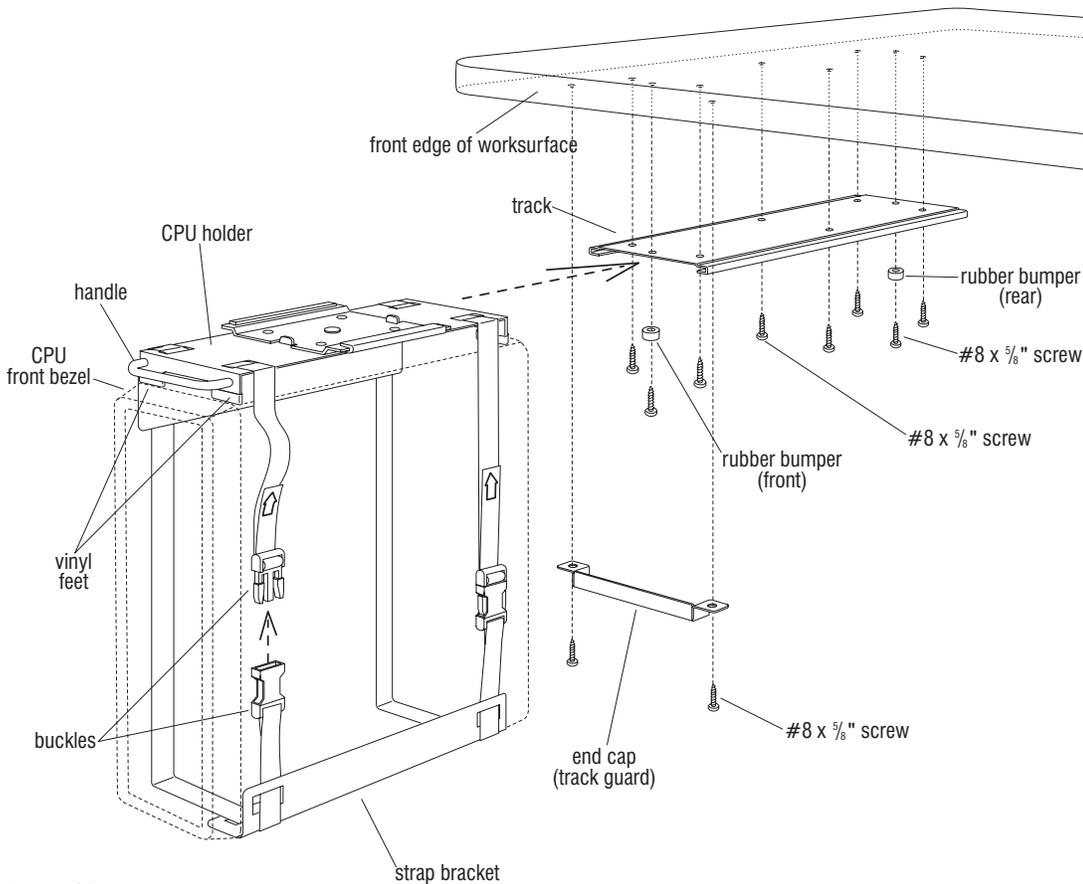

Figure 18
7. Mount the track to the underside of the worksurface at the six outside mounting holes using the #8 x $\frac{5}{8}$ " screws provided. Press a rubber bumper onto a #8 x $\frac{5}{8}$ " screw and install bumper into the rear, center hole in track. Make sure all screws are tight (Figure 18).
8. Slide the assembled unit and CPU into the groves on the track until it stops at the rear rubber bumper. Press a rubber bumper onto the remaining #8 x $\frac{5}{8}$ " screw and install the bumper and screw into the front, center hole in the track (Figure 18).
9. Position the end cap (track guard) in front of the track at the underside of worksurface. Mark the two mounting hole locations (Figure 18).
11. Mount the end cap (track guard) to the underside of the worksurface with two #8 x $\frac{5}{8}$ " screws (Figure 18).